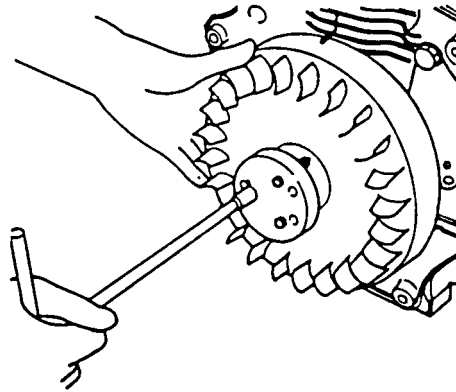

Figure 5-31. Flywheel Extractor
- (6) Using flywheel extractor, remove flywheel from crankshaft (Figure 5-31).
- (7) Remove key from crankshaft.